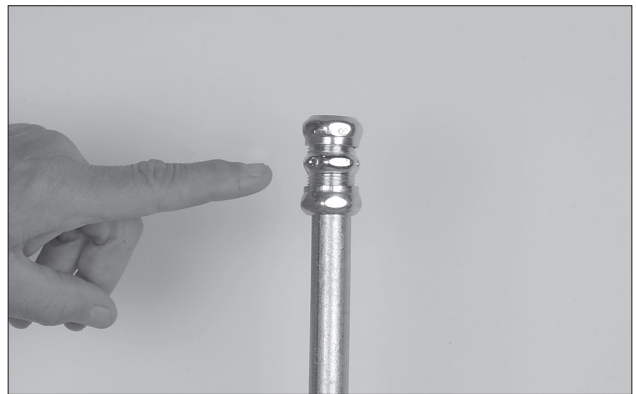

FIGURE 5-90
5. Install the compression union to the top of the conduit riser. See Figure 5-90.